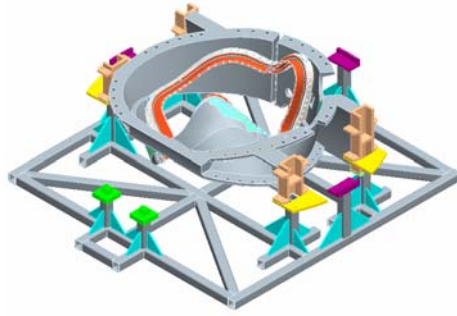

Figure 3-Position Casting in Assy. Fixture
- 6.5.2 Position the MCWF with lower support brackets into the assembly fixture [station 1a]. (Figure 3- Position Casting in Assy. Fixture) [Note: the TRC will not be assembled in the assembly fixture]